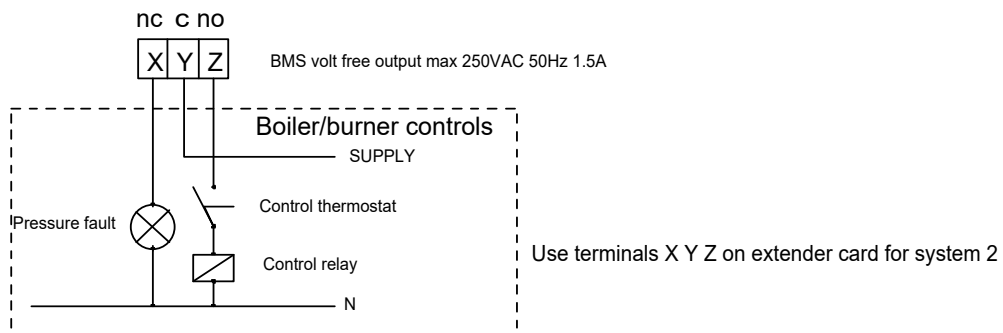

Fig 1.3 Typical Boiler Interrupt Circuit
- 1.3.6.4 Make any BMS connections required to terminals A-Z on the Interface card inside control panel with due regard to system 1 or 2 as required. Connect boiler/chiller terminals nos. X,Y,Z on interface card in series with the boiler/chiller control circuits so that in the event of a fault condition occurring the boiler/chillers shut down and remain inoperative until the fault condition is rectified. A typical arrangement is shown in fig 1.3.